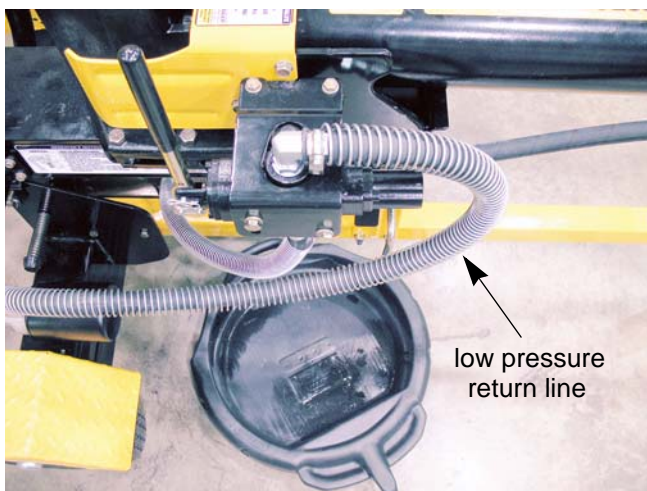

Figure 4.2
3. Place a suitable container under the valve to catch the fluid that will leak out as the hydraulic lines are removed. See Figure 4.2.